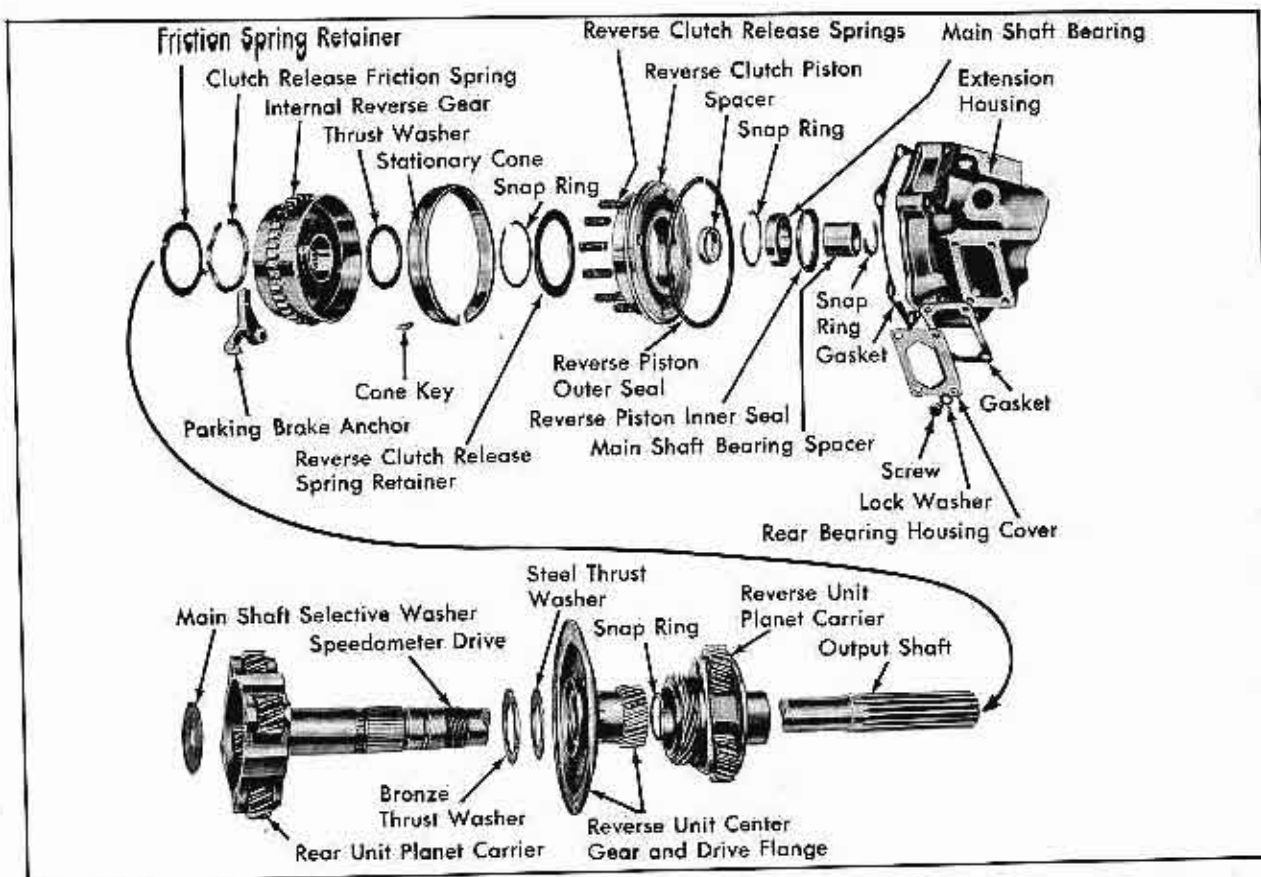

Fig. 14-41 Output Shaft and Reverse Assembly - Disassembled
#### d. Inspection of Reverse Assembly and Mainshaft (Fig. 14-41)
9. Inspect output shaft assembly for scored thrust and bearing surfaces. Fig. 14-41.